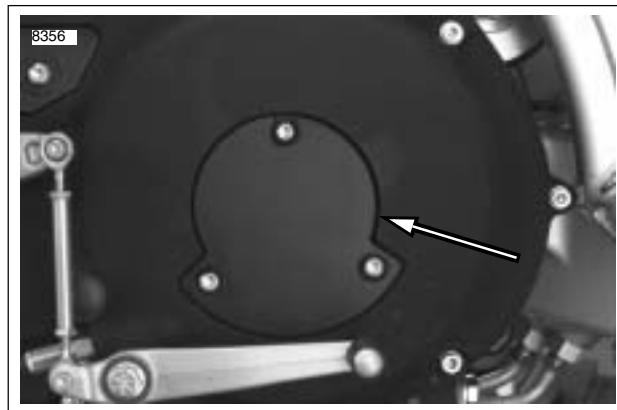

Figure 1-19. Clutch Inspection Cover
6. See Figure 1-19. Install clutch inspection cover tightening three fasteners and washers to 84-108 in-lbs (10-12 Nm).
3. See Figure 1-19. Remove three fasteners and washers from clutch inspection cover. Remove clutch inspection cover and gasket from primary cover.
- c. Tighten jam nut (3) against adjuster (4).
- d. Slide boot (1) over cable adjuster mechanism.
8. See Figure 1-19. Install clutch inspection cover and gasket using three fasteners and washers and tighten to 84-108 **in-lbs** (10-12 Nm).